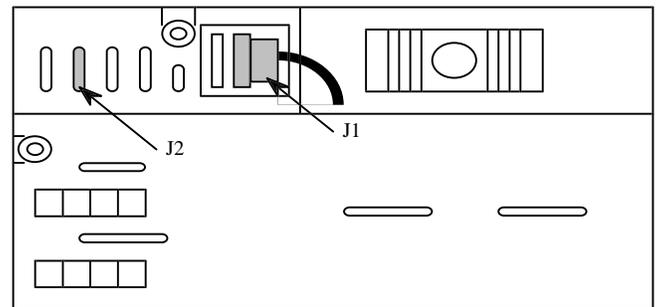
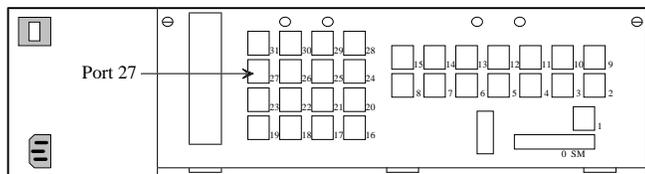
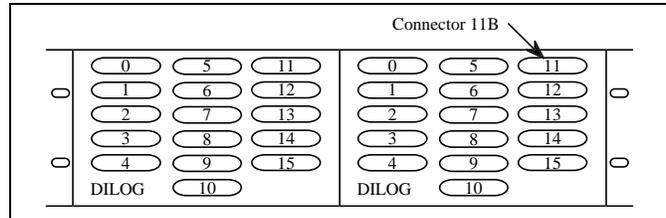
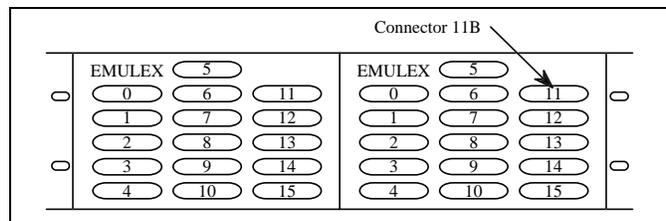

Figure 3 - Back View of ACU
Figure 9 - Back View of Site Controller Computer
Figure 10 - DILOG Distribution Panels
Figure 11 - EMULEX Distribution Panel
- Remove the cable connecting J2 on the ACU (see Figure 3) to Port 27 on the Site Controller computer (see Figure 9). If connections to the Site Controller computer are through DILOG or EMULEX panels, the cable goes to connector 11B (see Figure 10 or Figure 11) instead of Port 27.
- Remove the cable connecting J1 on the ACU (see Figure 3) to the TU radio in the old TU shelf and to the main DC power supply in the cabinet.
For a 19A149302P9 Site Controller (has modular connectors on its back panel - see Figure 9):
For a 19A149302P1 through -P8 Site Controller (uses DILOG or EMULEX panels - see Figure 10 or Figure 11):